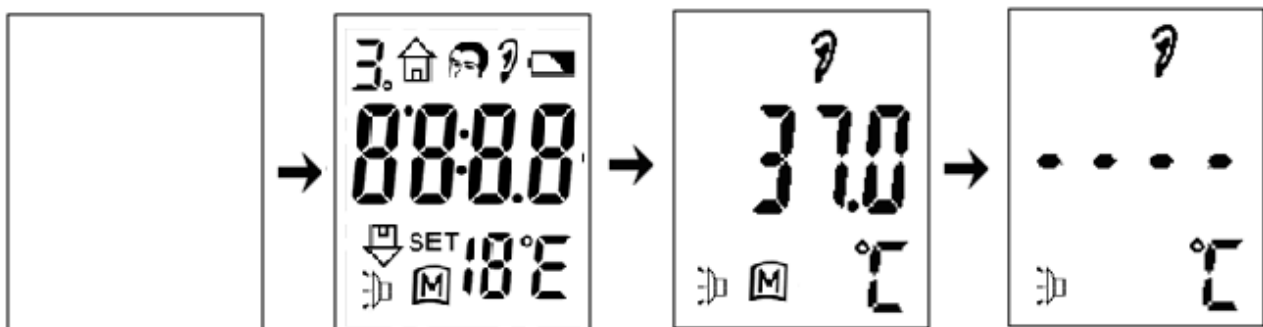

Figure 9
- 1) Take off the removable cap ① and press START button ⑥ the device will turn on and LCD display will show all segments for 2 seconds. Then the device will display the last reading if there are readings stored in it. After that a “be” sound is heard and the device is ready for ear measuring mode. (The “be” sound will not be heard if the voice function has been closed.) See Figure 9. If place the removable cap at this time it will shift to forehead measuring mode.